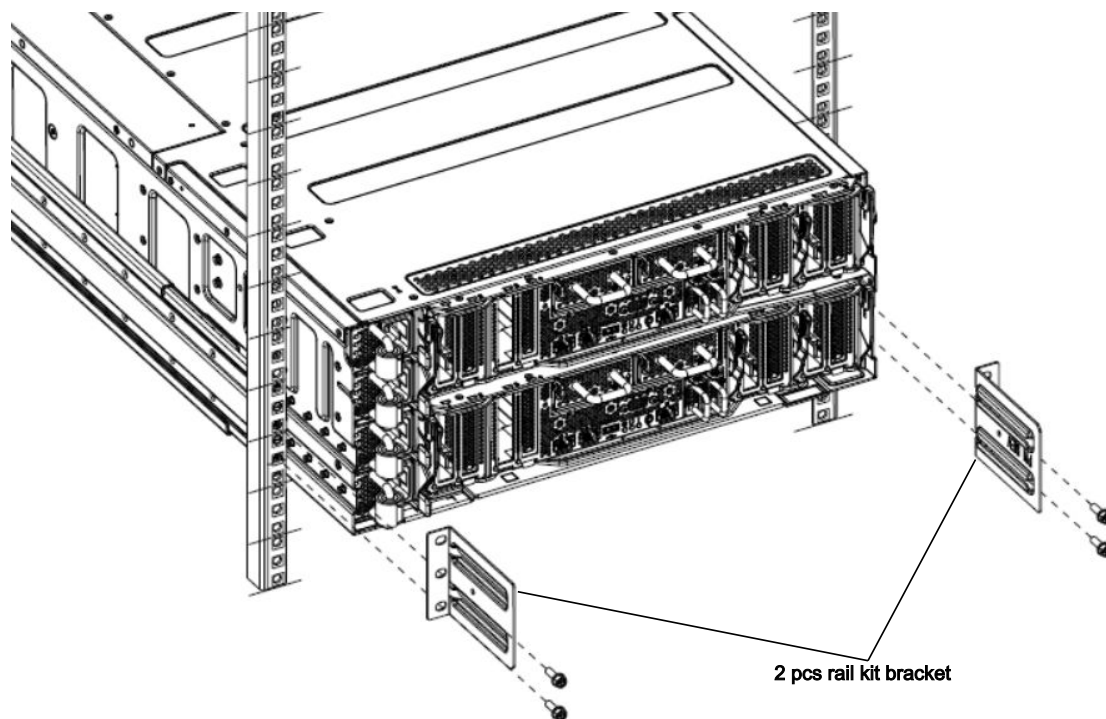

Figure 254. Installing the rail end brackets.
5. Fit the rail end brackets to the back of the control enclosure rails as shown in Figure 254 on page 314